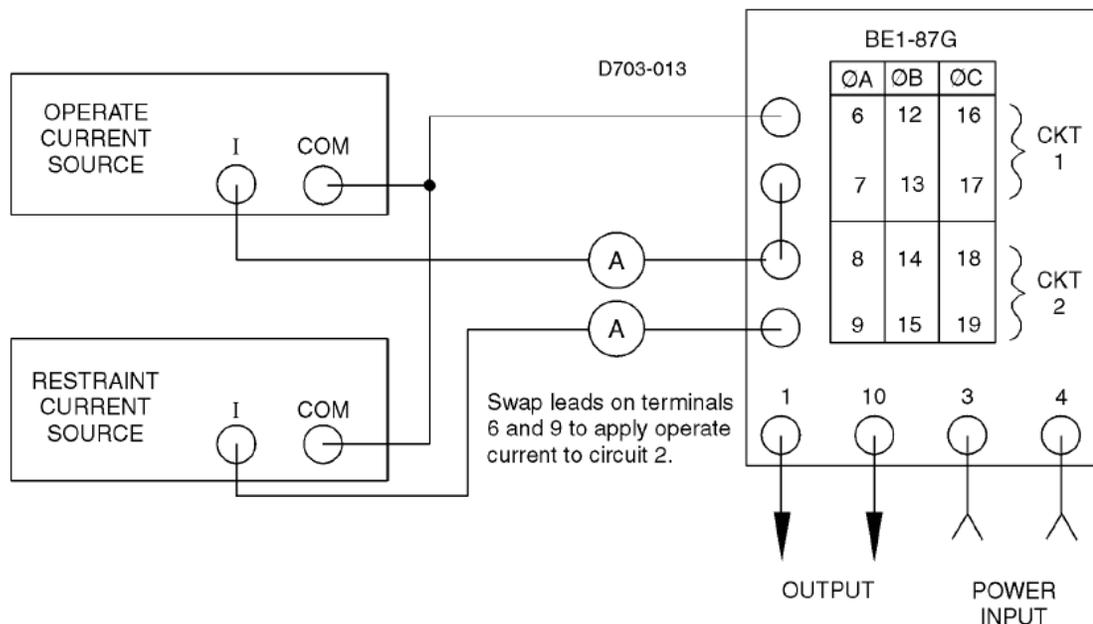

Figure 5-2. Operational Test Setup
9. If the relay is used in a 3-phase application, repeat Steps 2 – 7 for B and C phases per the chart on in Figure 5-2 on pg. 5-3. The other positions on the sensitivity switch may also be tested.